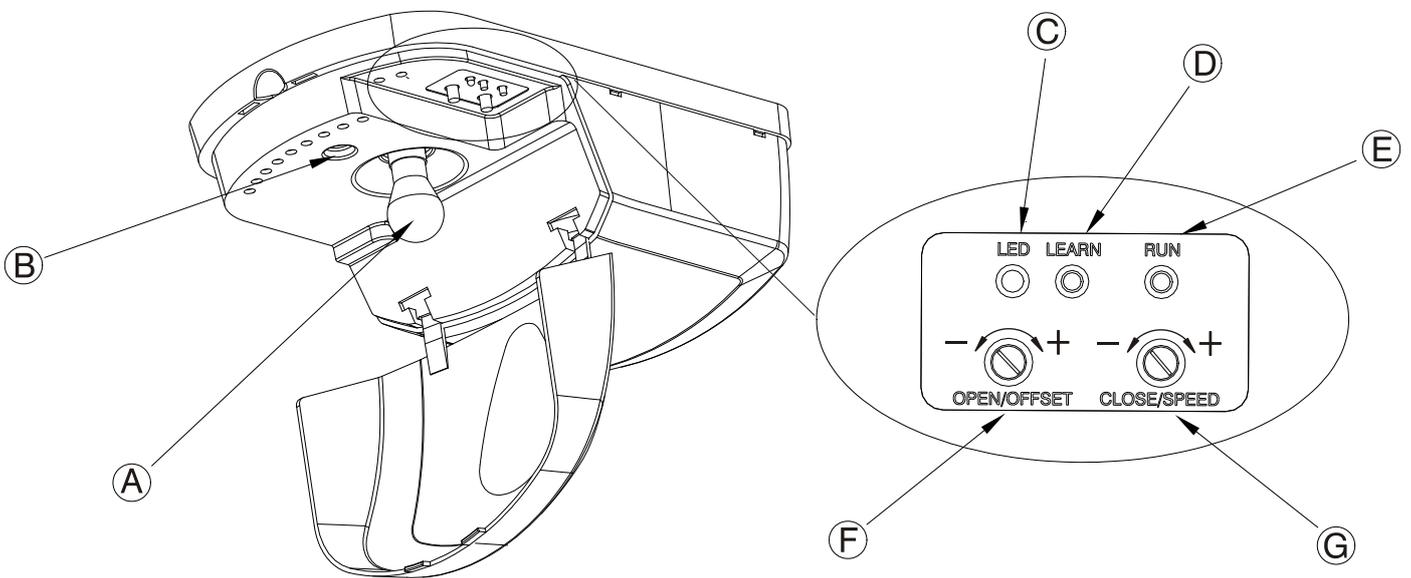

Fig. 18
- If the AGDO stops but does not reverse then turn the (red) Close / Speed Adjustment Pin 5 degrees in an anti-clockwise direction. (Fig.18-F)
- Will glow green when battery charger is charging (Fig.18-C)
- In the event of prolonged power outage the AGDO will automatically shut down (when battery voltage drops below 22 volts) in order to conserve remaining voltage - LED Indicator (Fig.18-C) will extinguish and the AGDO will cease to function.
- iii. remove the lamp bulb (Fig.18-A) by first pushing in and then turning anti clockwise (same as removing household light bulb)
- iv. remove the Control Box Cover Lock Screw point (Fig.18-B) Note: the Control Box Cover can be removed once the head of the screw is protruding by approx 5mm.
- Hinge open the Courtesy Lamp Cover to expose the bulb (Fig.18-A)
- i. hinge open the Courtesy Lamp Cover to expose the “Learn” Button (Fig.18)
- iii. momentarily press the “Learn” Button (Fig.18–D) – LED Indicator will glow solid (Fig.18–C)
- ii. momentarily press the “Learn” Button (Fig.18–D) – LED Indicator (Fig.18–C) will glow solid
- The Learn” Button (Fig.18 - D) is located within the Lamp Cover adjacent to the “Learn LED” and serves to initiate the functions as described in the following table;
- The LED Indicator (Fig.18-C) is located under the Courtesy Lamp Cover and serves to indicate the functions as described in the following tables;
- The black “Run” Button (Fig.18-E) is located under the Lamp Cover and serves to initiate the functions as described in the following table;